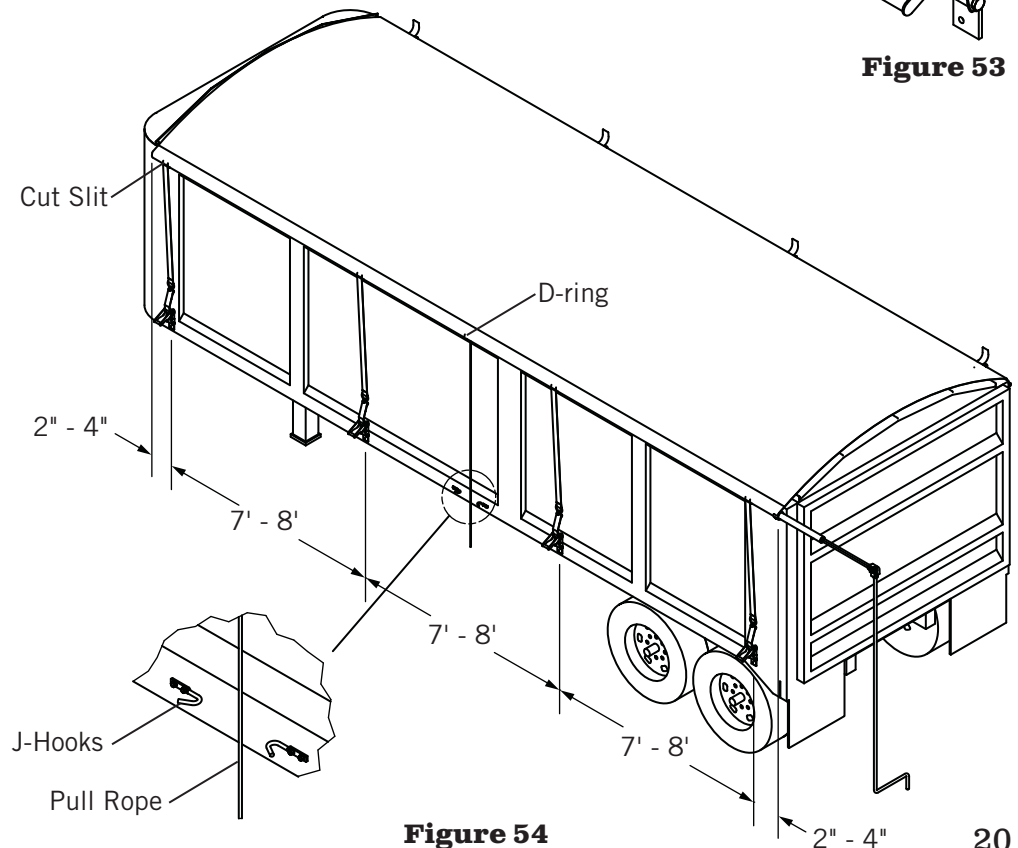

Figure 54
4) Figure 54. Space ratchets evenly down side of trailer.
1) Figure 54. A D-ring is centered on the length of the tarp. Wrap the rope around the D-ring and firmly tie it.
2) Figure 54. Place the J-hooks in an easy to reach location. Drill pilot holes and attach with #14 x 1 TEK bolts.